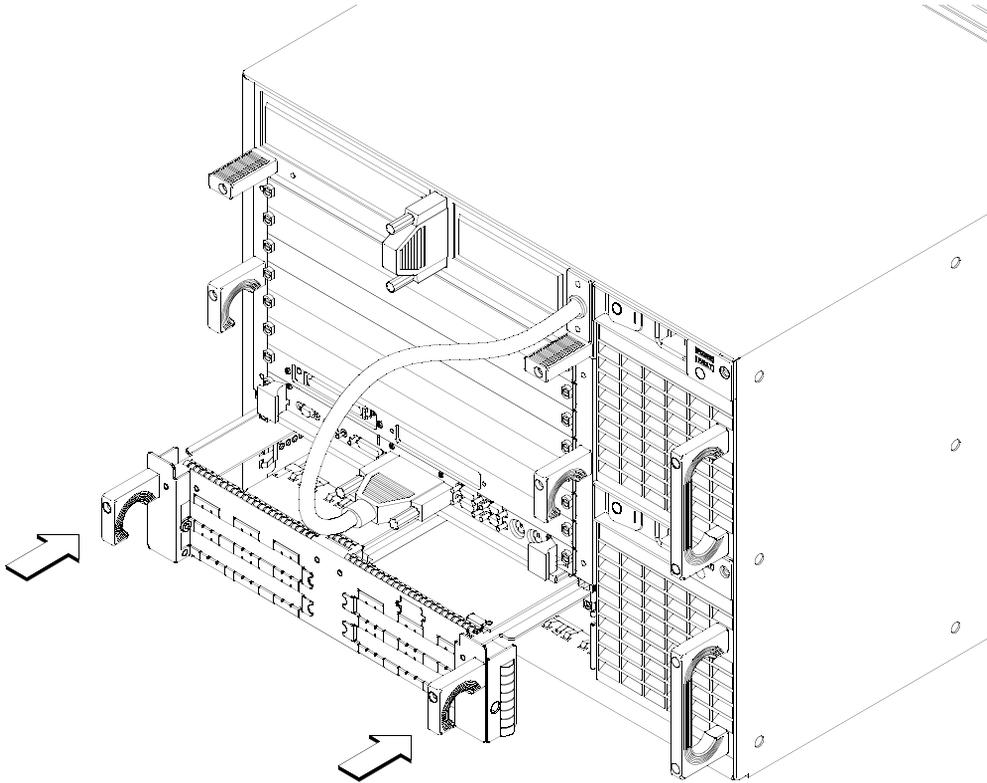

Figure 5-5 **Installing the PCI Module into the VMEbus Chassis**
- 10 Slide the PCI module into the VMEbus chassis, as shown in Figure 5-5, and tighten its handle screws.